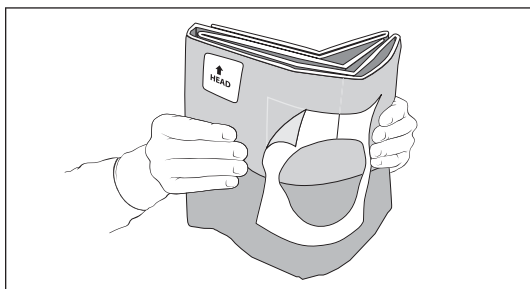

Figure 10
- Peel off fenestration backing (refer to Figure 10).